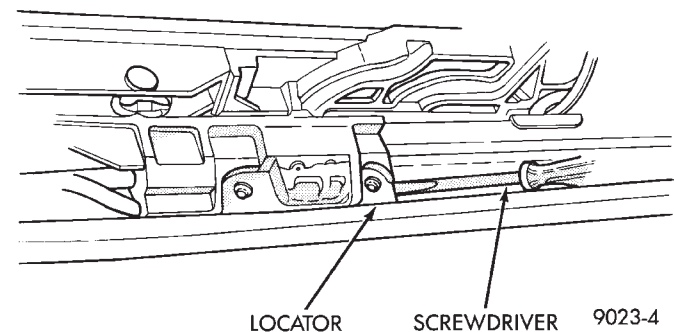

Fig. 4 Removing Cable Drive Locator
- (1) Position glass 19 mm (0.75 in.) until rearward cable locator is visible.
- (2) Remove screws holding drive cable locator to unit.
- (3) Remove travel limiting micro switch grommet and disconnect wire connector.
- (4) Insert a small screwdriver under rear edge of locator and pry locator from track (Fig. 4).